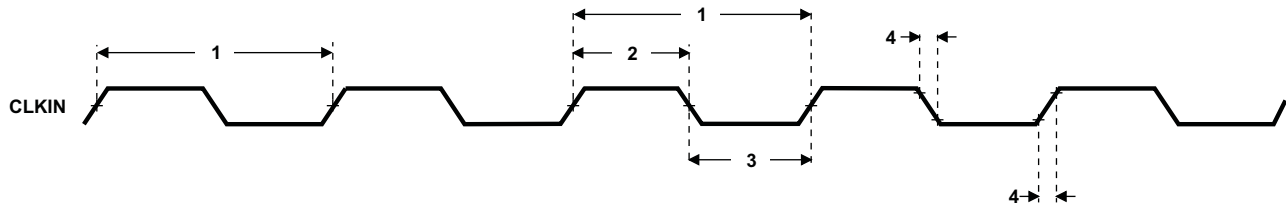

Figure 5-16. CLKIN Timing
(1) The startup time is highly dependent on the ESR and the capacitive load of the crystal.
(2) If the USB is used, a 12-MHz, ±100-ppm crystal is recommended.
Table 5-13. Timing Requirements for CLKIN^{(1) (2)} (see Figure 5-16)